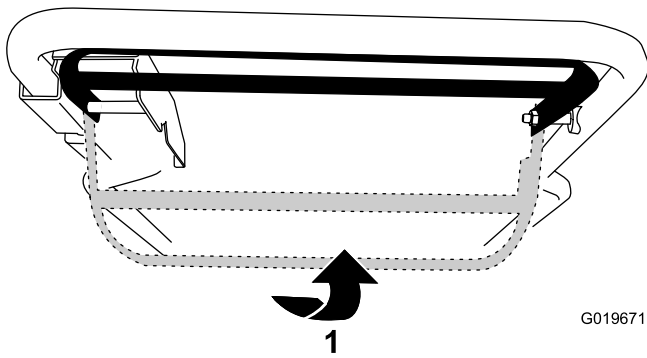

Figure 19
- To operate the self-propel drive without engaging the blades, raise the control bar to the handle (Figure 19).
- To operate the self-propel drive and engage the blades, slide the control bar all the way to the right and raise it to the handle (Figure 19).